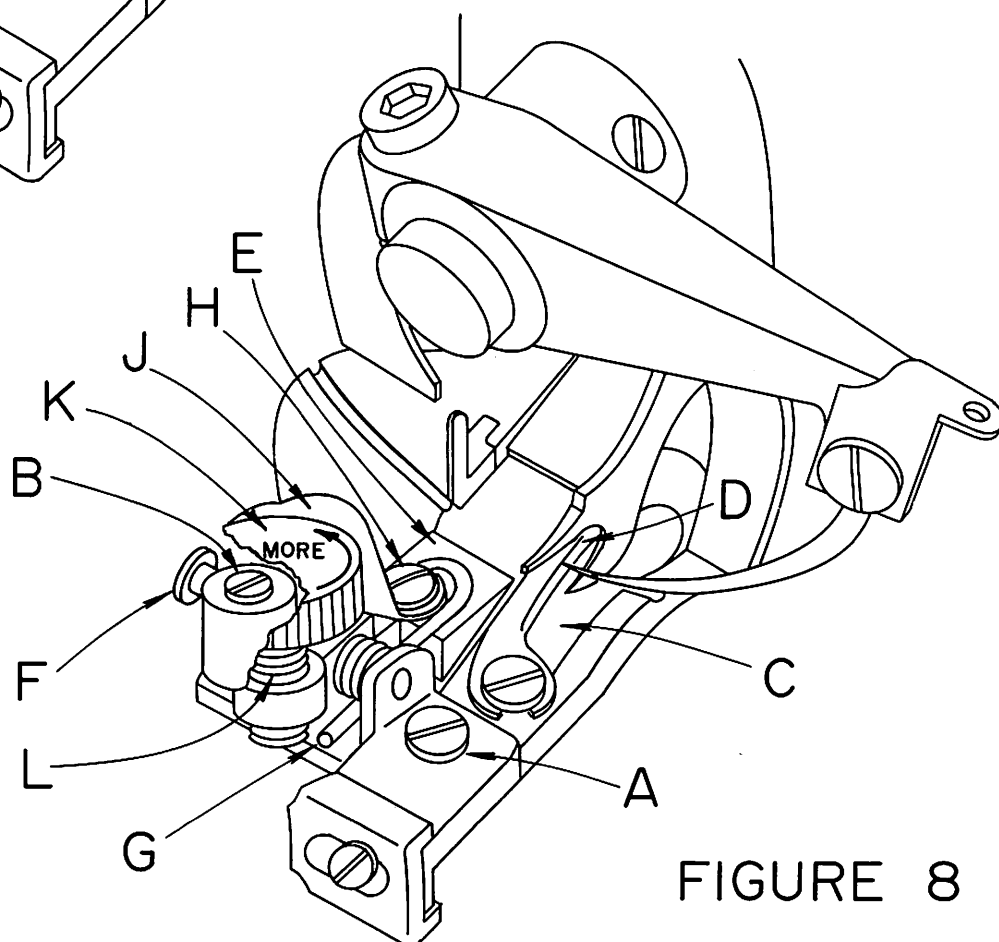

FIGURE 8
1. The shoe, (Item "E" in Figure 8), also known as a cloth retainer, normally will not require replacement. However, in the event of wear due to the particular fabrics being
2. The first step is to loosen the complete front guide assembly by unscrewing the front guide holder attaching screw (Item "A" in Figure 8). Next, loosen the shoe pin locking screw (Item "B", Figure 8) and slide out the shoe pin (Item "F"), shoe and retaining spring (Item "G"). Before removing these components it is advisable to note the manner in which the spring is assembled so that it may be reinstalled in the same way. Remove Items H, J, K and L. Attach these items to the new shoe.
3. When replacing an old shoe, make sure that the replacement shoe properly fits the pin without binding and without excessive looseness. In the event that the pin has worn, it should be replaced. After replacing the shoe, shoe pin spring and shoe pin, retighten screws (Items "A" and "B", Figure 8), and check to insure that the center of the shoe is lined up with the center of the rib. Also insure that the shoe clears both sides of the opening of the presserfoot.